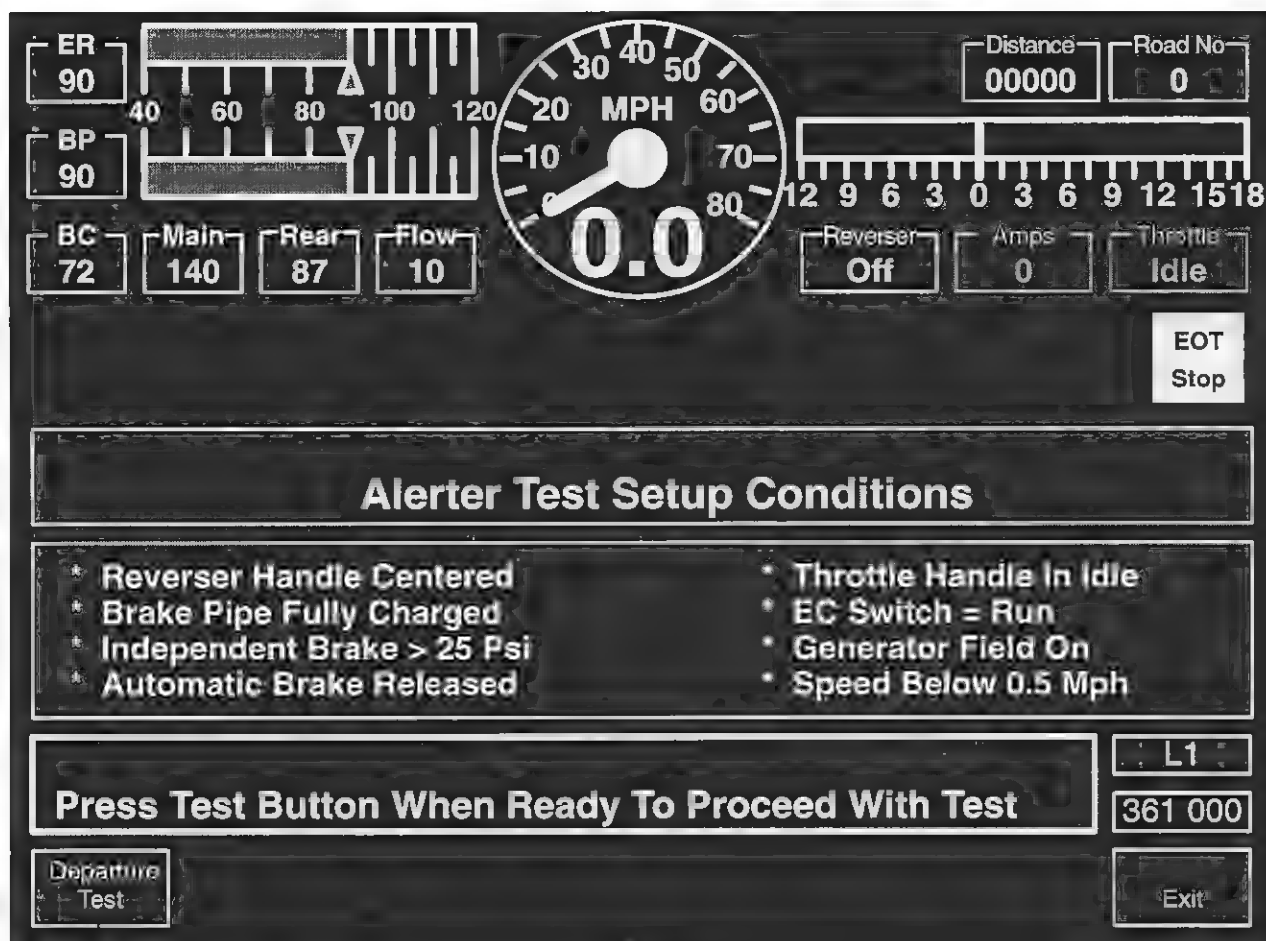

FIG. 47. ALERter TEST SETUP SCREEN (361 000). E-43060.
1. Pressing key position F1 (**Alerter Resets**) will display screen 361 000 (Fig. 47). This key is only active if the unit speed is less than 0.5 mph.